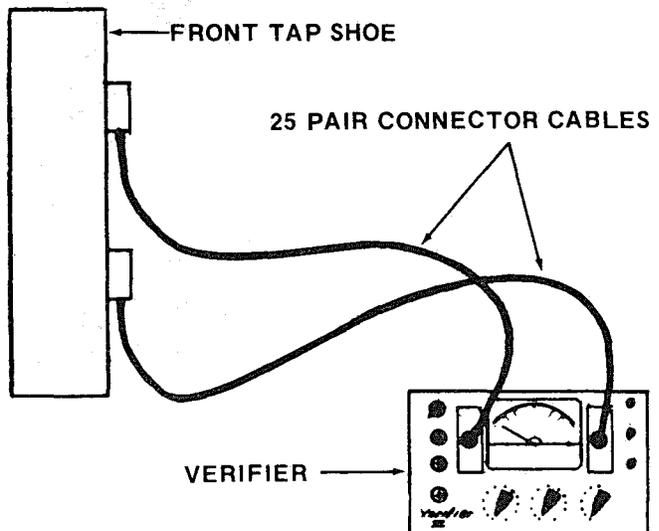

Figure 2
- 4.01** See Figure 2 for setup when testing non-working pairs at a main frame or terminals where front tap shoes may be used.